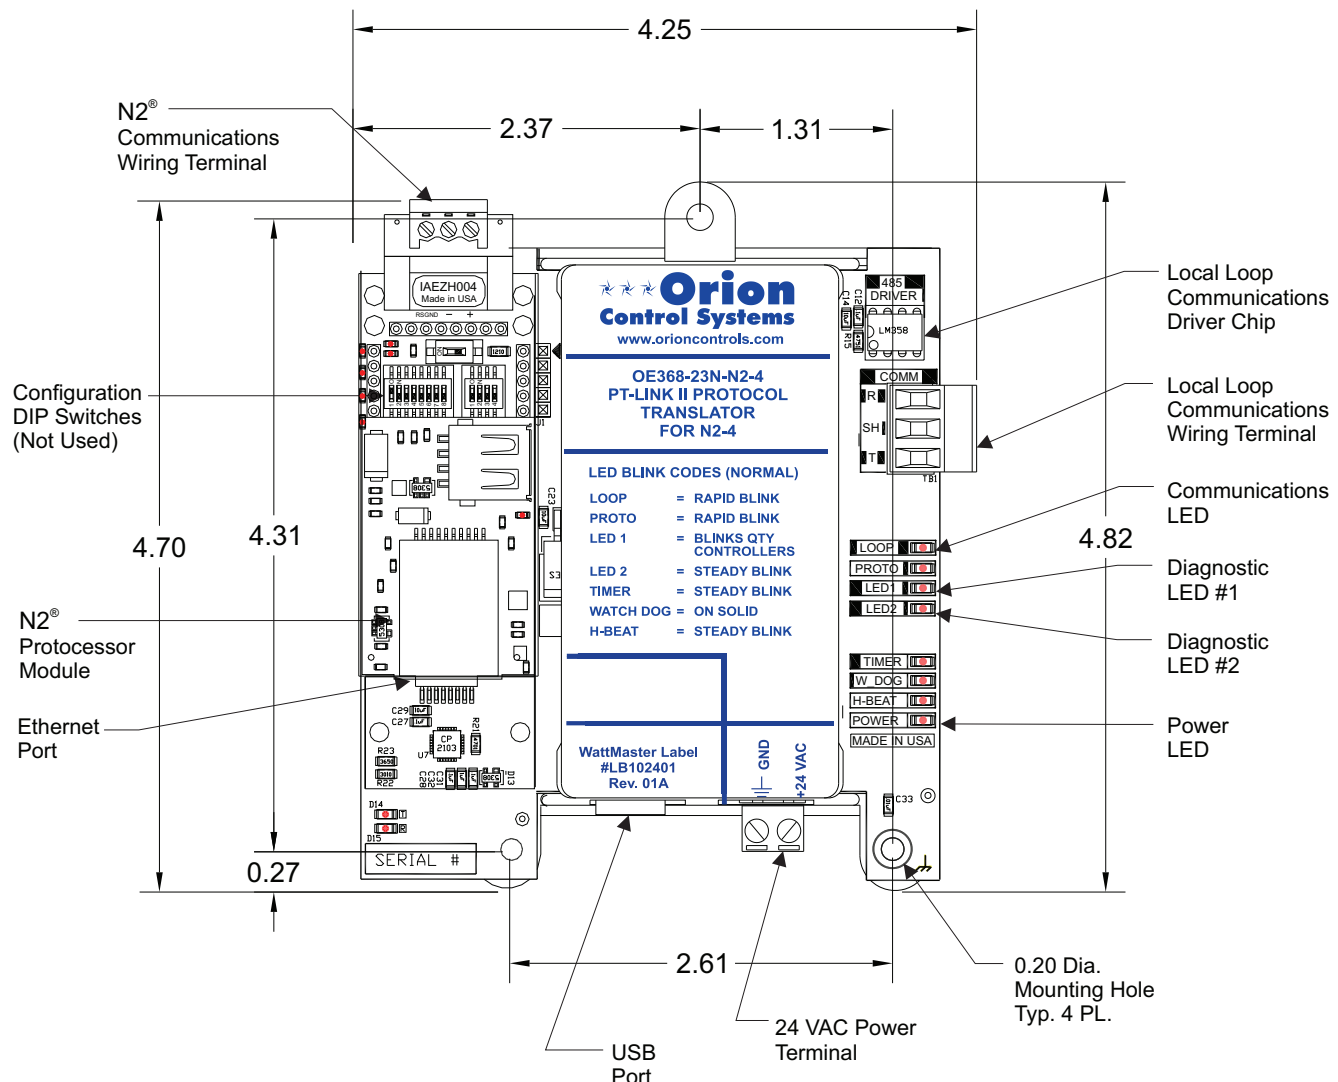

Figure 1: PT-Link II N2-4® Dimensions and Components
1. Familiarize yourself with the PT-Link II components (**Figure 1**).